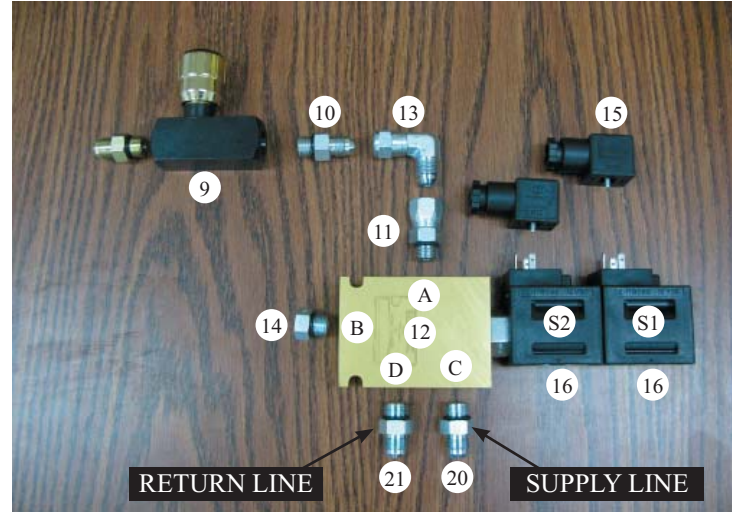

Figure 2.4 -Hydraulic Valve & fittings
Refer to *Figures 2.4 & 2.5* for this step.
1. Assemble the needle valve assembly as per *figure 2.4*. The parts are as follows; (#14)-6MBP in port 1 (#P2), (#11)-6MB-6FJX in port 3 (#P3), (#13)-6MJ-6FJX90 (#10)-6MB-6MJ (#9)-6ORB Flow Control (#15)-Solenoid wiring connector (#16)-Valve Solenoids (#12) Hydraulic Valve.